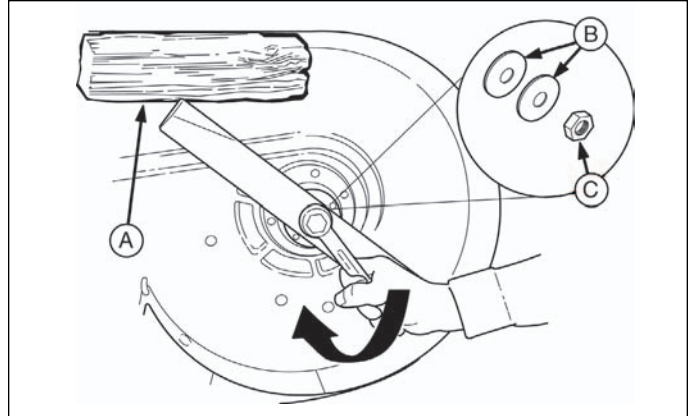

Figure 5. Blade Installation
1. Check that blades are installed with the tabs pointing up toward deck as shown in Figure 5. Secure with a nut, and two blade washers, concave side up. Use a wooden block to prevent blade rotation and torque nut to 80-90 ft-lbs.